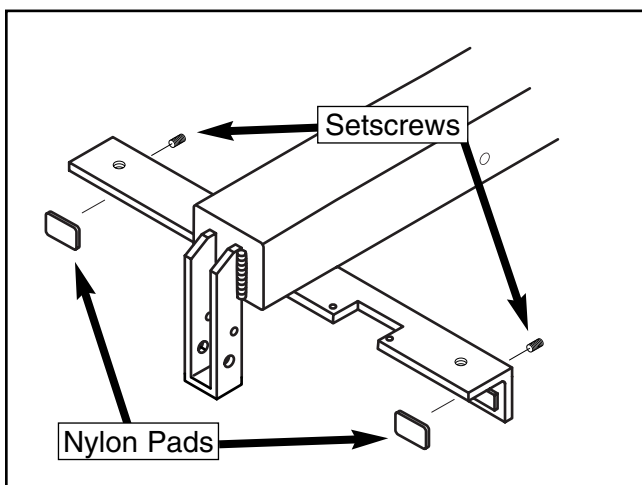

Figure 28. Setscrew adjustments.
2. Remove the fence from the saw and adjust the setscrews equally on the rear side of the front bracket as shown in **Figure 28**.